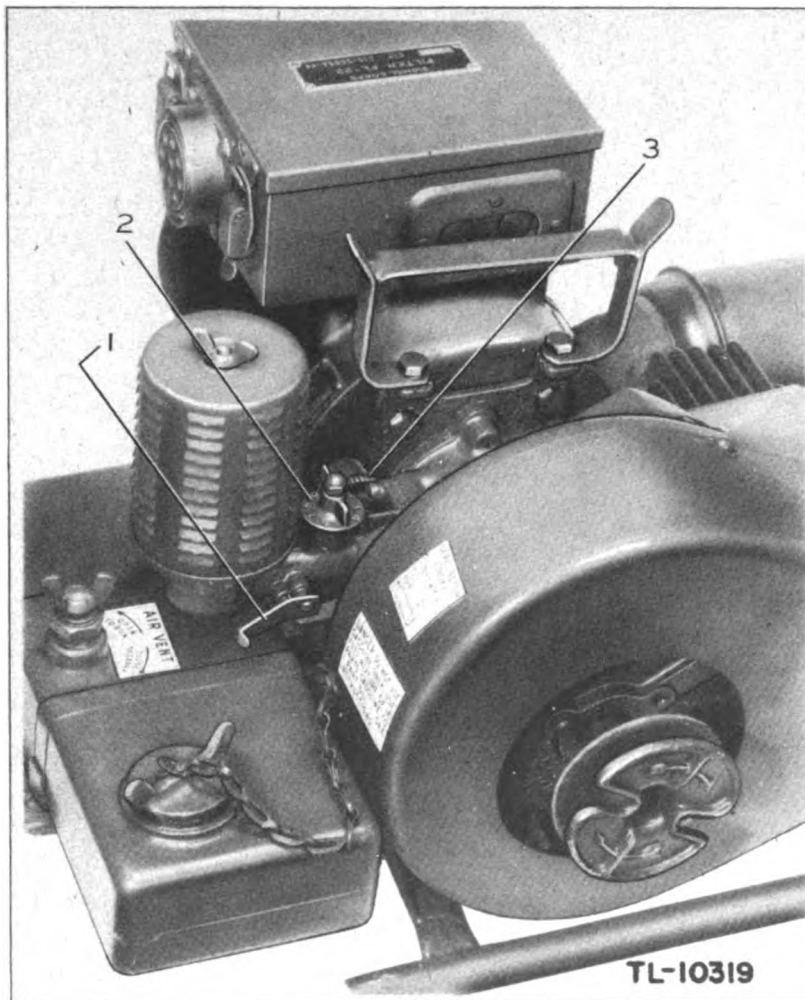

Figure 28—Starting Controls—Power Unit PE-162
e. Turn the carburetor needle valve and adjustment knob (Fig. 28) to number 5 on its scale which is the half-open position.
f. Move the choke lever (Fig. 28) to the vertical position.
(1) Disconnect the cable, start the engine, push the ON button on the filter unit and measure the voltage between pins shown in Figure 68. If the voltage is not approximately 500 volts, adjust the speed regulator (Fig. 28) until that voltage is obtained. Push the OFF button on the filter unit, attach the cable and screw the retaining ring up right.
(3) For subsequent starting, the carburetor needle valve and the speed regulator ordinarily need not be changed unless the engine is extremely cold or the grade of fuel has been changed. It is usually sufficient to use only the choke for starting. In very cold climates, it will be necessary to open the needle valve for starting, readjusting it as the engine warms up.
(4) Sometimes the engine may refuse to start